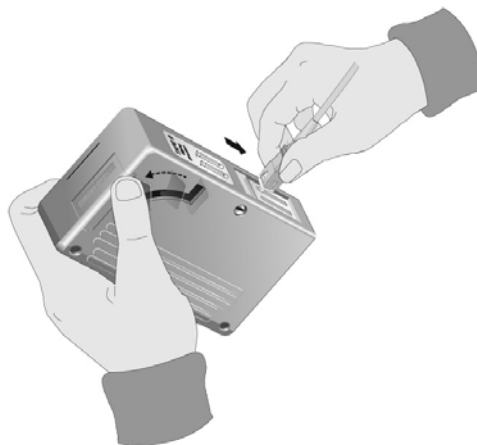

Figure 31. Rubbing the Ferrule Tip on the Cleaning Surface
8. With one hand, hold the cartridge cleaner and push the lever on the cleaning cartridge in the direction of the arrow to expose the cleaning surface, as shown in Figure 31.
9. Place the ferrule tip on the exposed cleaning surface and rub the ferrule in a downward direction, as shown in Figure 31.
- I. Insert the swab into the adapter as shown in Figure 31 and rub the ferrule tip with the swab.